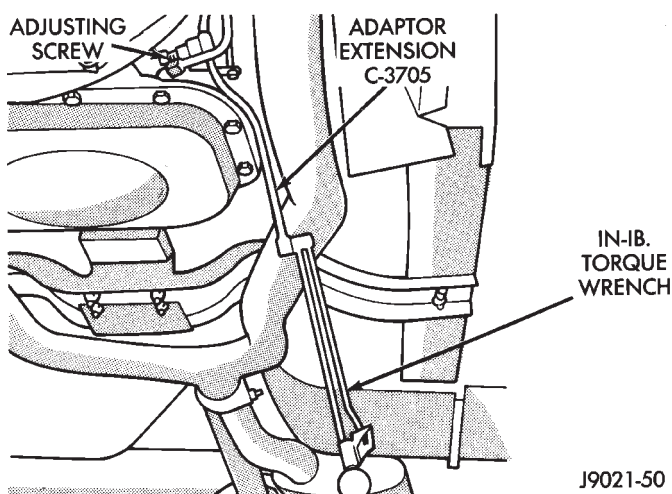

Fig. 8 Front Band Adjustment
(3) Clean adjusting screw threads with Mopar rust penetrant if necessary. Then lubricate threads with Mopar spray lube or petroleum jelly. Be sure screw turns freely in case. This is necessary for accurate adjustment.
(4) Tighten band adjusting screw to 8 N·m (72 in. lbs.) torque with inch-pound torque wrench. **If Adapter Extension C-3705 is needed in order to reach adjusting screw, tighten screw to only 5-6 N·m (47-50 in. lbs.) torque (Fig. 8).**
(5) Back off front band adjusting screw as follows:
(6) Hold adjuster screw in position and tighten locknut to 41 N·m (30 ft. lbs.) torque.
(7) Lower vehicle.